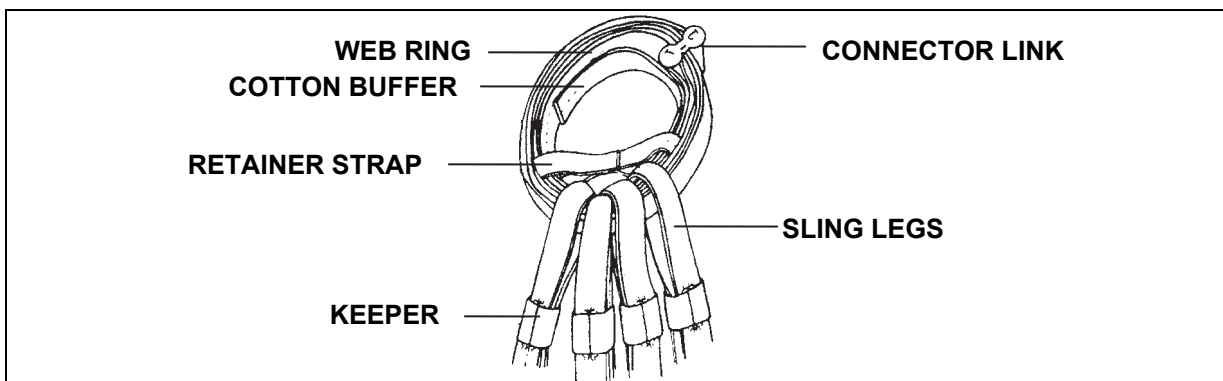

Figure 6-23. Legs Assembled on Web Ring
- Nylon Web Ring.** The nylon web ring has a maximum capacity of 15,000 pounds. Figure 6-23 shows that the web ring is held together by a connector link. A cotton/nylon buffer, sewn on the inside of the nylon web strap, helps prevent wear to the ring. There are also cotton/nylon buffers sewn to the inside of each end of the sling leg. Figure 6-23 shows the four legs attached to the web ring. Notice how the nylon loops of the sling leg are positioned under the retainer strap to prevent the legs from moving around the web ring.